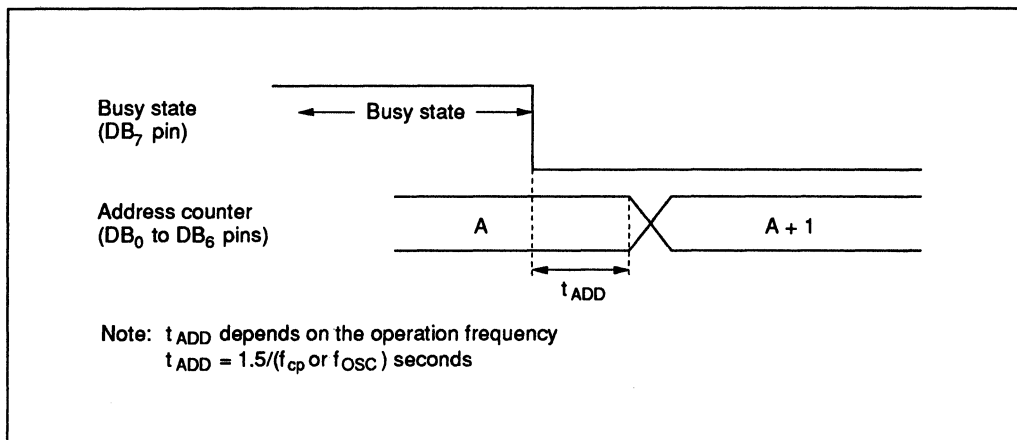

Figure 13 Address Counter Update
* After execution of the CG RAM/DD RAM/SEGRAM data write or read instruction, the RAM address counter is incremented or decremented by 1. The RAM address counter is updated after the busy flag turns off. In figure 13, t_{ADD} is the time elapsed after the busy flag turns off until the address counter is updated.